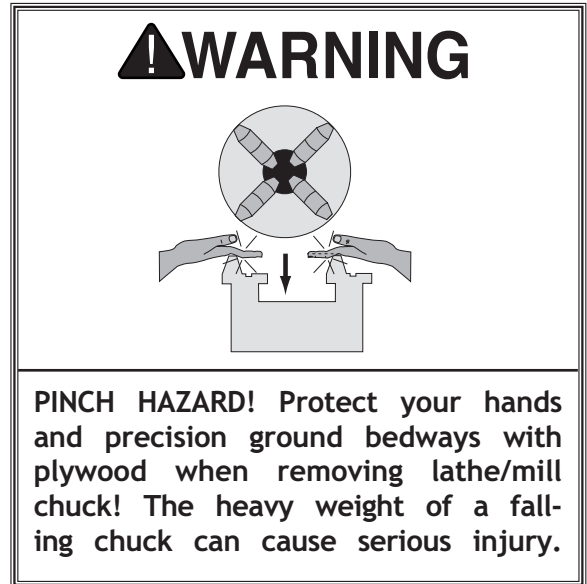

Figure 20. Clamping workpiece.
3. Lock the tailstock and then turn the tailstock quill so the dead center makes contact or is close to the center point of your workpiece (see **Figure 20**).